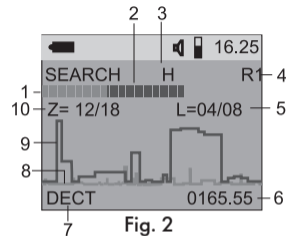

Fig. 2
The state of the display at the first switching -on is shown on Fig. 2.
Set of indication limit related to the current level of radio signals ((background diminutionsignal subtraction) is realized by  short-time  pressing of button. Simultaneously you will see a message «ZERO» for a short time (item. 4 fig. 2) and the clearance of indicators will happen showing the digital number in item 5.
Cancellation of indication limit set with indication zeroing in item 10 is provided by pressing button  during the indication of the message «ZERO» in item 4, fig. 2.
Set of indication scale sensitivity is provided by short-time continuous pressing of the button  By doing so the chosen value of scale sensitivity is indicated in item 3, fig. 2: